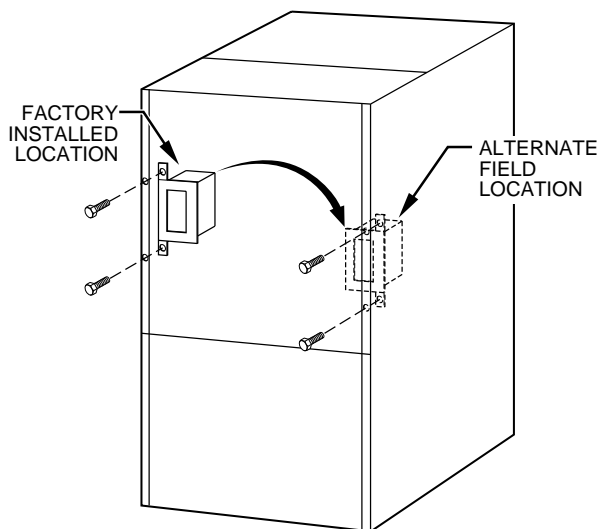

Fig. 23—Relocating J-Box
1. Remove 2 screws holding auxiliary J-box. (See Fig. 23.)